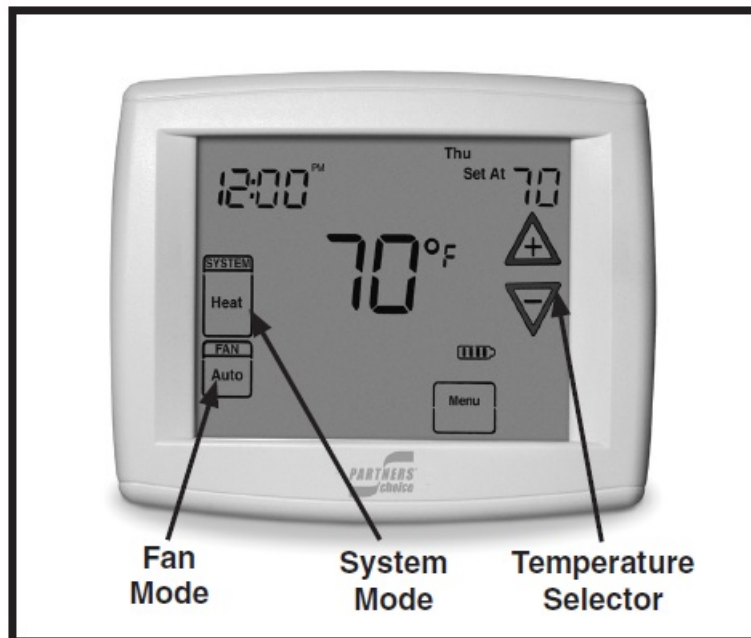

Figure 1. Digital Thermostat
1. Set the thermostat system mode to COOL and the thermostat fan mode to AUTO. See Figure 1.
1. Set the thermostat system mode to Heat and the thermostat fan mode to AUTO. See Figure 1.
Set the thermostat system mode to OFF and the thermostat fan mode to AUTO. See Figure 1. NOTE: The system will not operate, regardless of the thermostat temperature selector's setting.
- Set the thermostat fan mode to ON (or CONT on some thermostat models). See Figure 1.
1. Set the thermostat's system mode to HEAT or AUTO and change the fan mode to AUTO. See Figure 1 (pg 3).
1. Set the thermostat system mode to AUTO and the thermostat fan mode to AUTO. See Figure 1 (page 3).
The continuous indoor blower operation is typically used to circulate the indoor air to equalize a temperature imbalance due to a solar load, cooking, or fireplace operation. Set the thermostat fan mode (Figure 1) to ON (or CONT on some thermostat models). The indoor blower will start immediately and will run continually until the fan mode is reset to AUTO. The continuous indoor blower operation can be obtained with the thermostat system mode set in any position, including OFF.
Set the thermostat system mode (Figure 1) to OFF and the thermostat fan mode to AUTO. NOTE: The system will not operate, regardless of the thermostat temperature selector's setting.